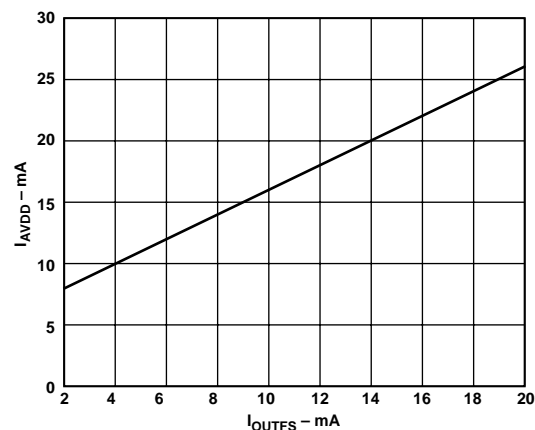

Figure 30. I_{AVDD} vs. I_{OUTFS}
The power dissipation, P_D , of the AD9764 is dependent on several factors, including: (1) AVDD and DVDD, the power supply voltages; (2) I_{OUTFS} , the full-scale current output; (3) f_{CLK} , the update rate; and (4) the reconstructed digital input waveform. The power dissipation is directly proportional to the analog supply current, I_{AVDD} , and the digital supply current, I_{DVDD} . I_{AVDD} is directly proportional to I_{OUTFS} , as shown in Figure 30, and is insensitive to f_{CLK} .